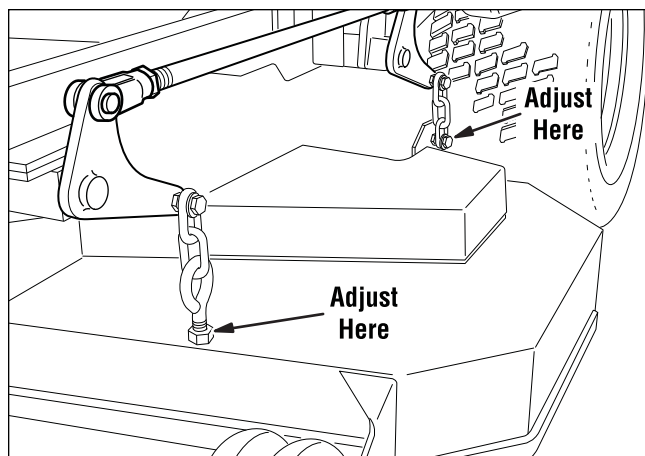

Figure 41. Hanger Chain Adjustment
4. Adjust the front eyebolts until the chains are tight and the deck is still resting on the 2 x 4's. Tighten the jam nuts. See Figure 41.
5. Loosen the nuts and allow the rear of the deck to rest on the 2 x 4's and 1/4" spacers. Slide the chains down in the slots until the chains are tight and tighten the nuts. See Figure 41.